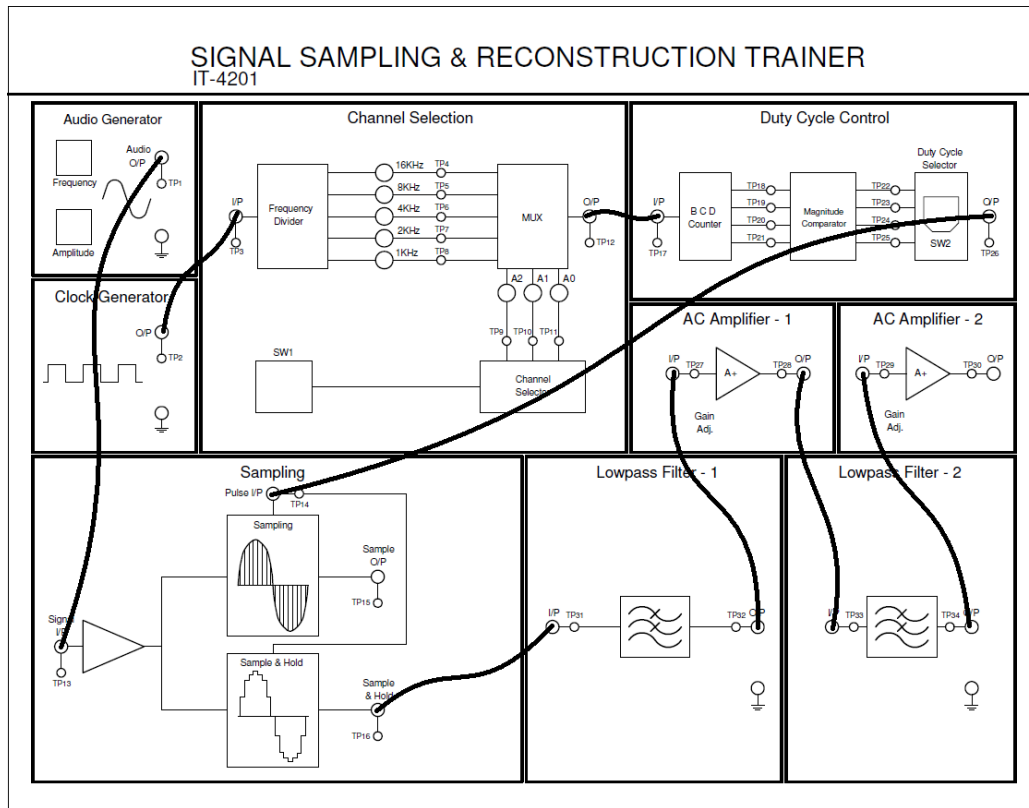

Fig. B.1: Experimental Setup
5. Make connections using 2mm patch cords as shown in Fig. B.1.